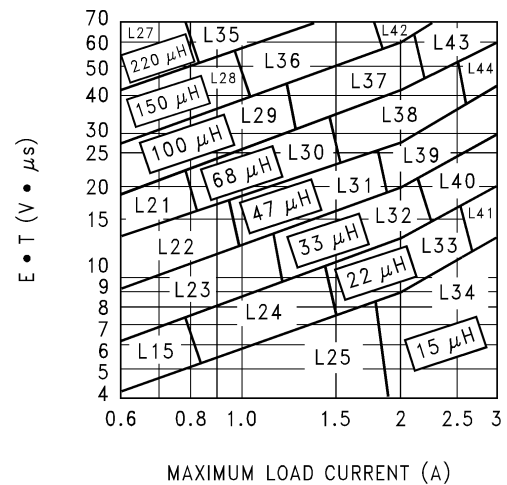

Figure 24. LM2596-ADJ
2. Inductor Selection (L1) A. Calculate the inductor Volt • microsecond constant $E \cdot T$ ($V \cdot \mu s$), from the following formula: $E \cdot T = (V_{IN} - V_{OUT} - V_{SAT}) \cdot \frac{V_{OUT} + V_D}{V_{IN} - V_{SAT} + V_D} \cdot \frac{1000}{150 \text{ kHz}} (V \cdot \mu s)$ where V_{SAT} = internal switch saturation voltage = 1.16V V_D = diode forward voltage drop = 0.5V (4) B. Use the $E \cdot T$ value from the previous formula and match it with the $E \cdot T$ number on the vertical axis of the Inductor Value Selection Guide shown in Figure 24. C. on the horizontal axis, select the maximum load current. D. Identify the inductance region intersected by the $E \cdot T$ value and the Maximum Load Current value. Each region is identified by an inductance value and an inductor code (LXX). E. Select an appropriate inductor from the four manufacturer's part numbers listed in Table 3.	2. Inductor Selection (L1) A. Calculate the inductor Volt • microsecond constant ($E \cdot T$), $E \cdot T = (28 - 20 - 1.16) \cdot \frac{20 + 0.5}{28 - 1.16 + 0.5} \cdot \frac{1000}{150} (V \cdot \mu s)$ $E \cdot T = (6.84) \cdot \frac{20.5}{27.34} \cdot 6.67 (V \cdot \mu s) = 34.2 (V \cdot \mu s) \quad (5)$ B. $E \cdot T = 34.2 (V \cdot \mu s)$ C. $I_{LOAD(max)} = 3A$ D. From the inductor value selection guide shown in Figure 24, the inductance region intersected by the 34 ($V \cdot \mu s$) horizontal line and the 3A vertical line is 47 μH, and the inductor code is L39. E. From the table in Table 3, locate line L39, and select an inductor part number from the list of manufacturers part numbers.